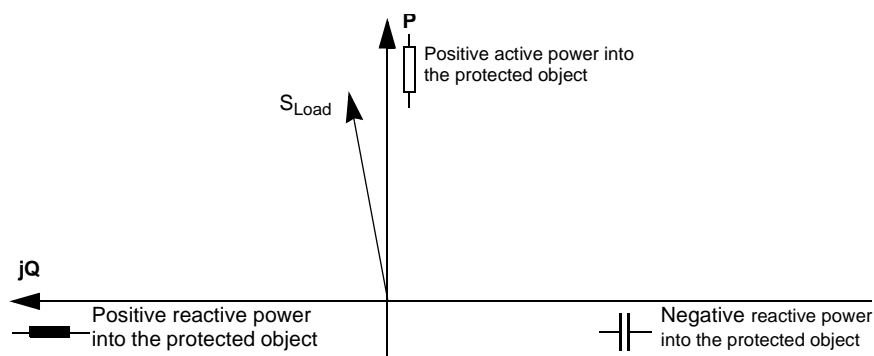

Figure 3-39 Complex (apparent) power
- With the aid of the measured power values you are able to verify that they correlate to the load direction, reading either at the device itself or in DIGSI® (Figure 3-39):